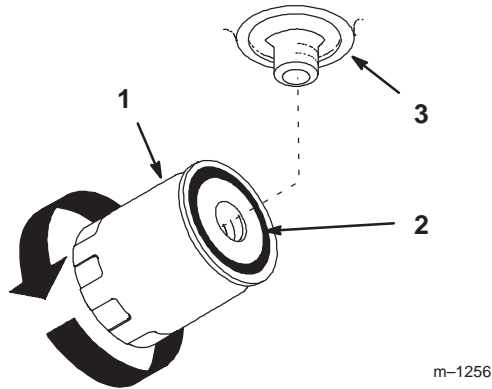

Figure 57
5. Apply a thin coat hydro fluid to the rubber gasket on the replacement filter (Fig. 57).
8. When fluid overflows filter turn the oil filter clockwise until the rubber gasket contacts the filter adapter, then tighten the filter an additional 1/2 turn (Fig. 57).